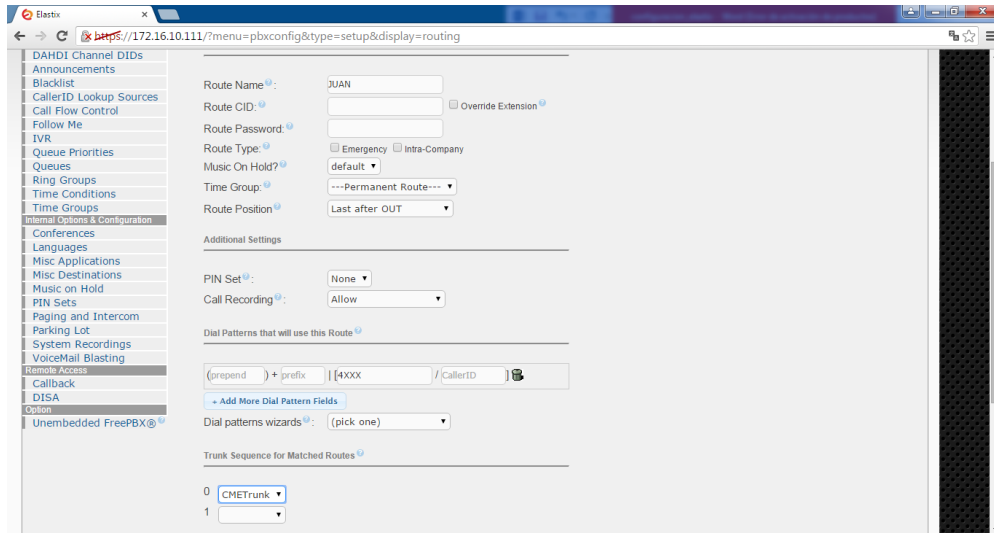

Figura 3.22 Definimos Route Name, Dial Patterns, Trunk Sequence
2. Crear Route Name, Dial Patterns, Trunk Sequence ver Figura 3.22 .